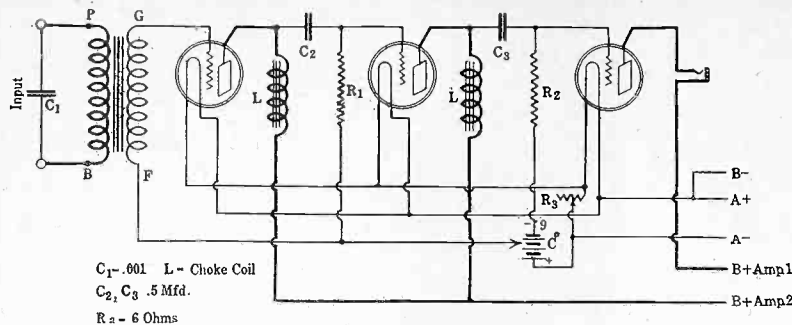

FIG. 319
(1)—Fig. 319 shows the stage of transformer coupled AF amplification, followed by the two stages of impedance coupled AF coupling. The constants are all stated. With this method, the quality reproduction is very good. It is however only equal in volume to the 2 stage transformer coupled AF amplifier. The quality is much superior and worth the extra tube. (2)—If the power tube is to be used, a separate rheostat will have to be used to control the filament of this tube. This means that two rheostats instead of one as in the diagram will be needed. It should be a 6 ohm type, being able to pass at least 1 ampere. It should be connected in series with the negative leg of the filament of this tube. (3)—Yes.